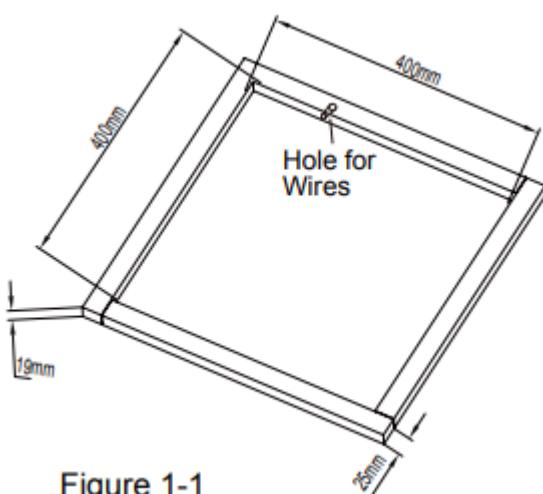

Figure 1-1
If a roof vent opening is not used, a new opening (see figure 1-1) will be cut into the vehicle roof. A matching opening will also have to be cut into the interior vehicle ceiling, be careful when cutting the ceiling opening because if the ceiling opening is carpeted, snagging could occur. After the opening in the roof and interior ceiling are the correct size, a framed support structure must be placed between the exterior roof top and interior ceiling. The reinforced framed structure must follow the following guidelines:
2. It must be capable of holding the roof outer surface and interior ceiling apart and supporting them, so that when the roof top air conditioner and ceiling assembly are bolted together, no collapsing occurs. A typical support frame is shown in Figure 1-1